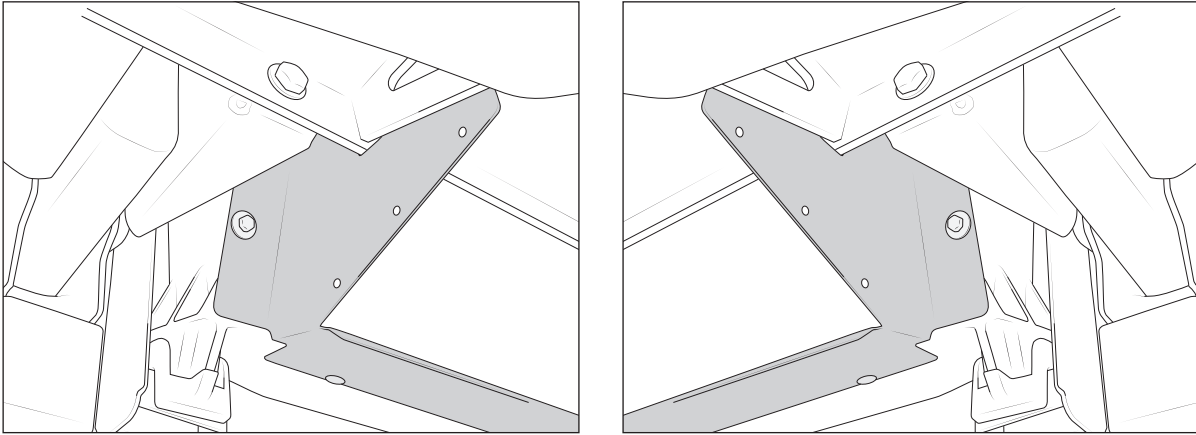

Figure 37
2. Attach AEV intercooler shroud to the intercooler at the two lower factory locations using the supplied hardware (fig. 37). Use the three factory push pins to secure the shroud along the bottom of the intercooler.